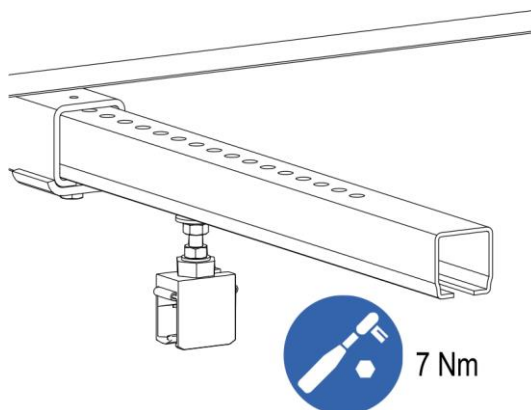

Fig. 53: First hanger clamp slid onto the cross arm and tightened
- Tighten the first hanger clamp with the prescribed torque (SW 13, torque wrench: **7 Nm**) (see Fig. 53).